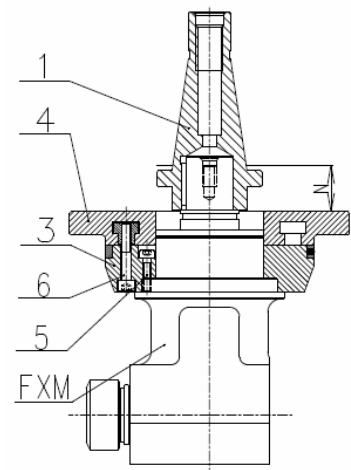

Fig. 11
Assembly of parts 1, 3 and 4 on the models PVM and FXM (fig. 11) Assembly of the flange with scale PS, the universal flange US and the taper shank
4. Fasten the flange with scale to the head body by means of screws (Pos. 5, fig.11)
5. Locate the T-slot nuts in the universal flange according to the screws (Pos. 6, fig.11)
6. Clean the universal flange UP (Pos. 4, fig. 11), put it on the head body and screw the screws (Pos. 6) in T-slot nuts.